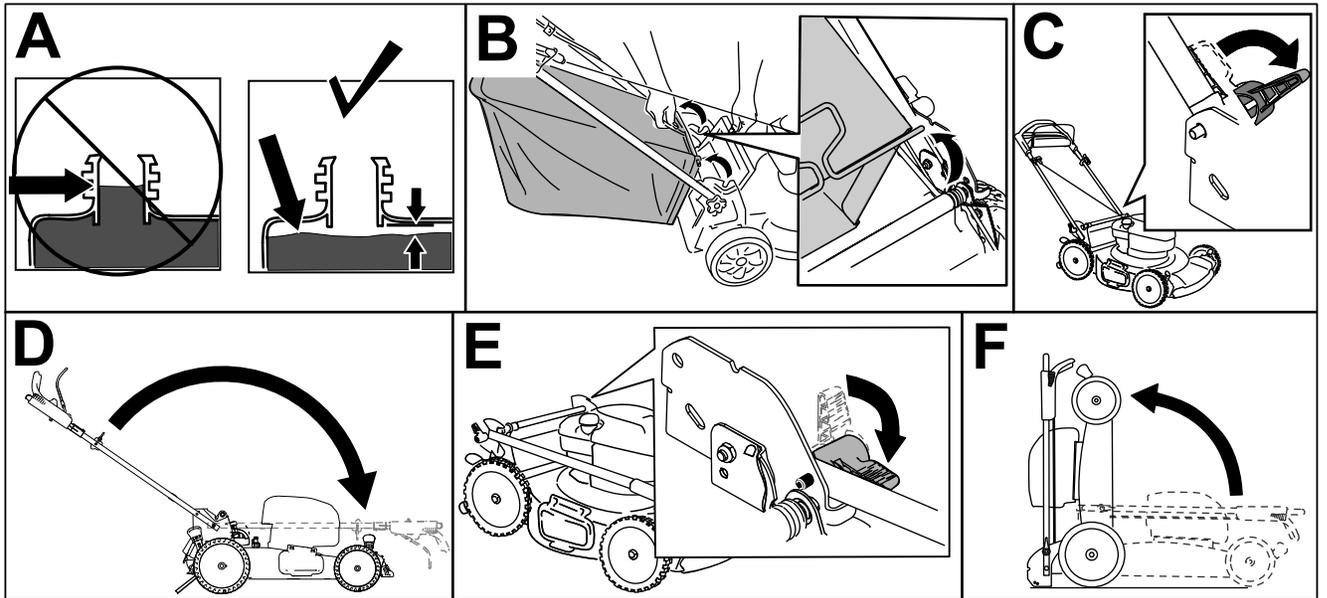

Figure 25
Note: If the level of fuel in the fuel tank is too high, drain the fuel from the fuel tank into an approved fuel container until it is at or below the level recommended by the engine manufacturer (A of Figure 25).
2. If the grass bag is on the machine, remove it (B of Figure 25).
3. Disengage the handle locks (C of Figure 25).
4. Fold the handle fully forward (D of Figure 25).
5. Engage the handle locks (E of Figure 25).
6. Lift the front of the machine by the handle and move it into a storage space (F of Figure 25).